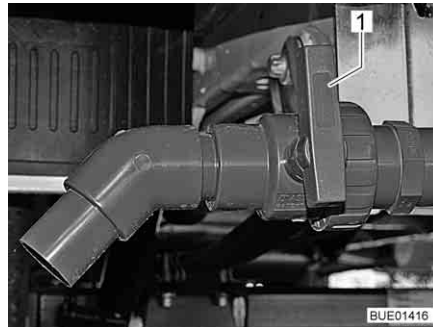

Fig. 203 Drain cock
- Turn the handle (Fig. 203,1) of the drain cock in flow direction.